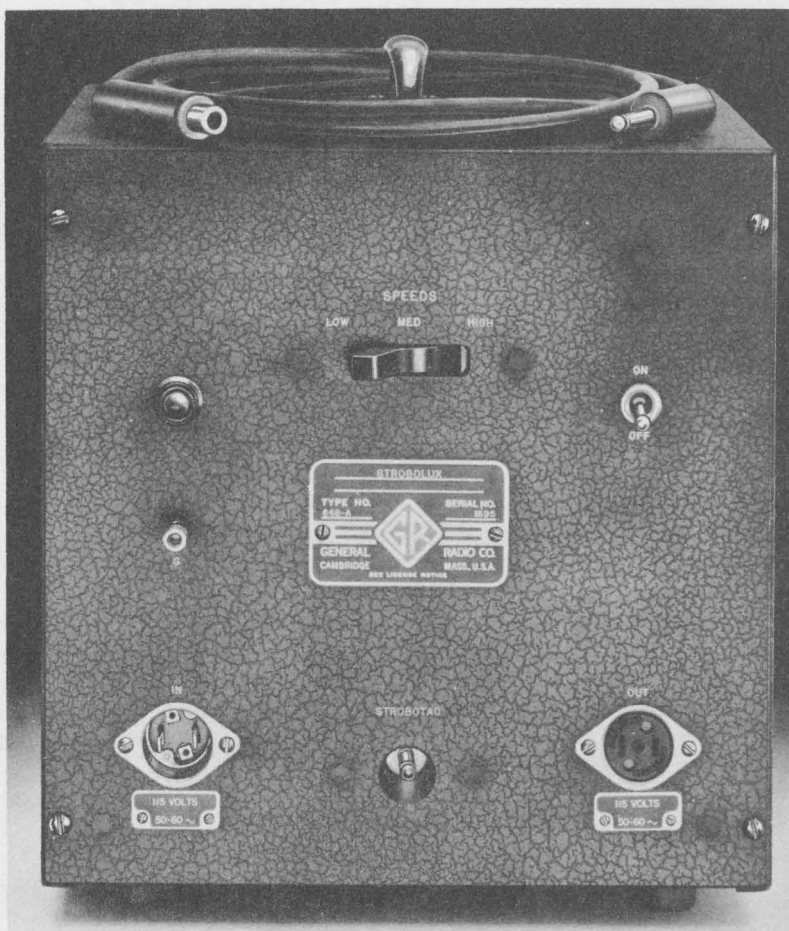

Figure 1. Type 648-A Strobolux®
1.1 PURPOSE. The Type 648-A Strobolux® (Figure 1), an accessory to the Type 631 Strobotac®, provides, over an area of several feet, a light flash 100 times brighter than that obtained from the Strobotac.